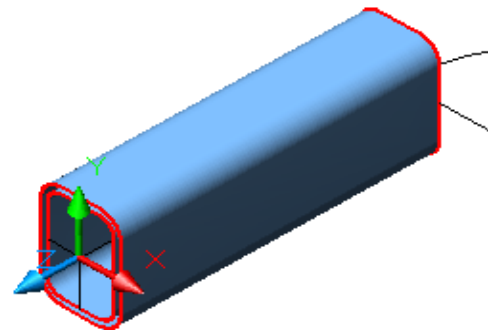

Figure Step 13
Step 13 Using the TABSURF command, create the surface for the outside of the tube as shown in Figure Step 13.